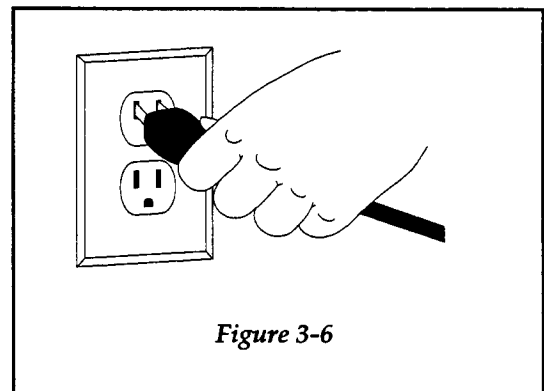

Figure 3-6
Step 5 Make sure the ON/OFF switch is OFF (0), then plug the electrical cord into a three-prong outlet. Figure 3-6.